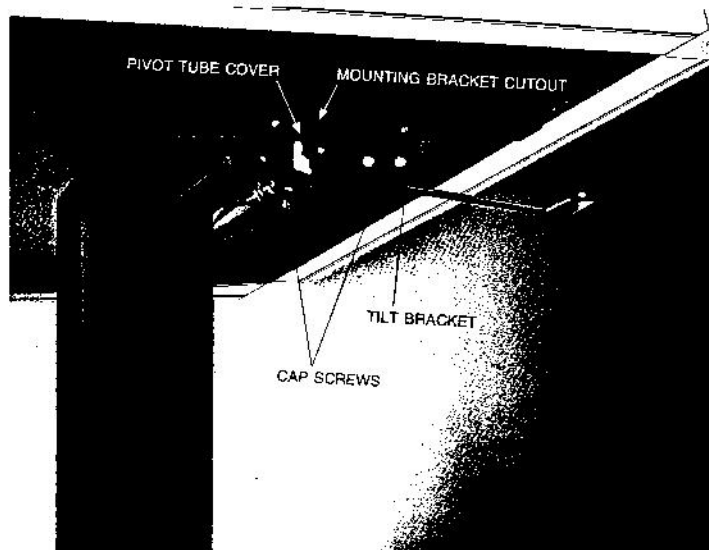

Figure 2-4: Fitting the tablet to the pedestal
5. Lift the tablet up. Set it on the pedestal tilt brackets, positioning the mounting bracket cutouts over the pivot tube covers. See Figure 2-4. The tablet mounting brackets fit over the tilt brackets and permit little or no side-to-side movement.
7. Align the mounting bracket holes with the threaded holes in the tilt brackets. Attach the tablet to the tilt brackets using four 1/4" diameter capscrews which were previously removed. See Figure 2-4.